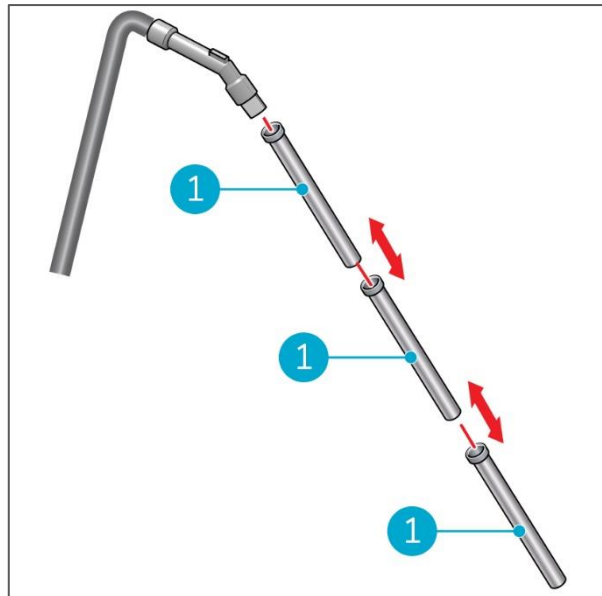

Figure 16
Add or remove a section of the wand (Figure 16, pos 1) to adjust the length.